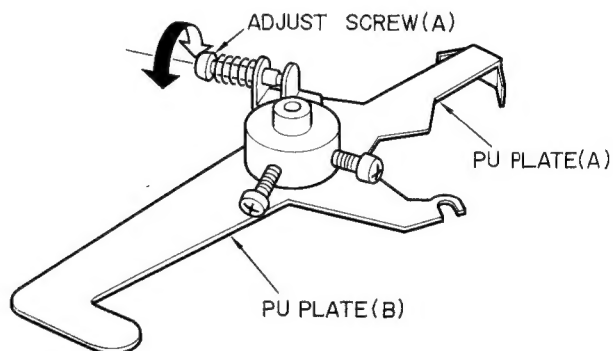
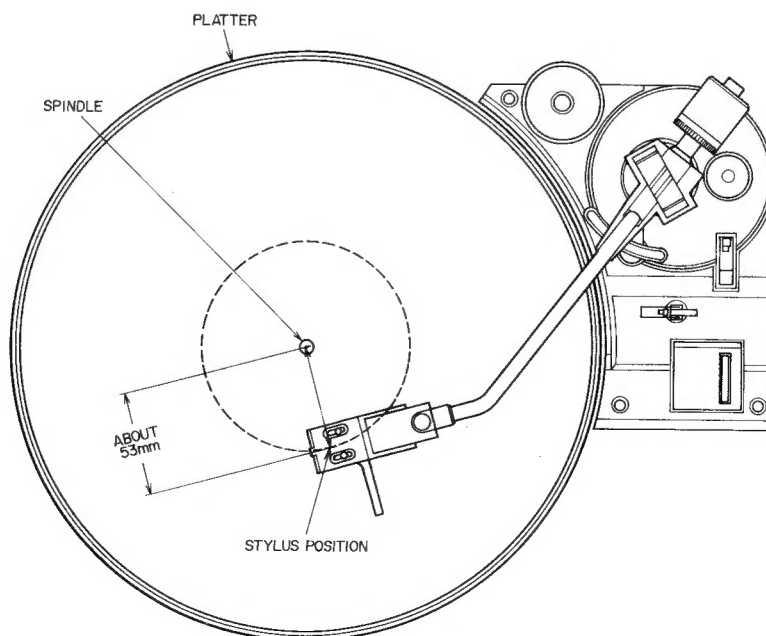

Fig. 5
Fig. 4
- 3) With your fingers, slowly move the Tone Arm towards the center of the platter and set the adjust screw shown in Fig. 5 so that return operation begins when the stylus is about 53 mm from the spindle. (See Fig. 4)